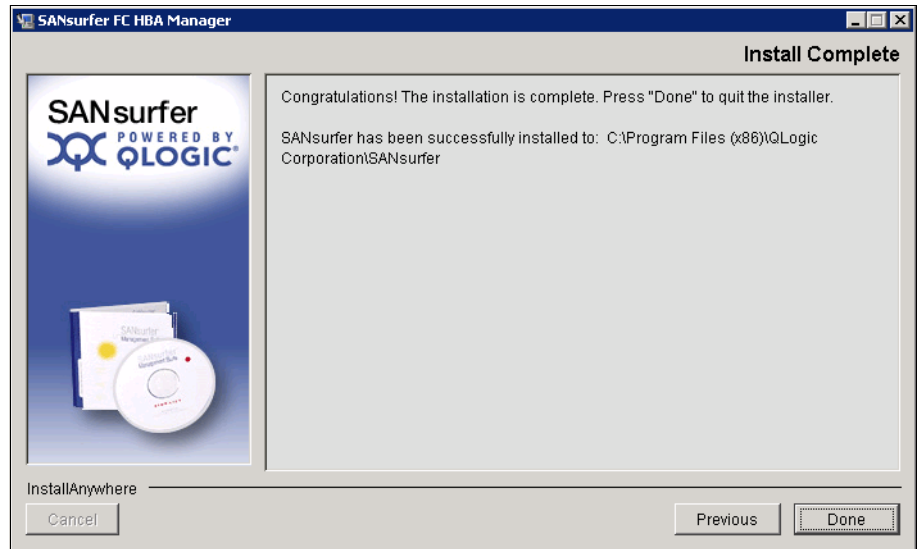

Figure 7-70 Installation completed
- In the Install Complete panel (Figure 7-70), click **Done**.